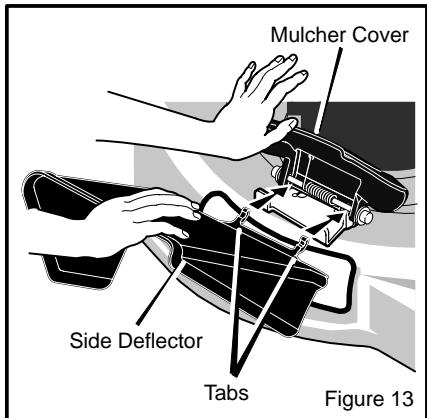

Figure 13
1. Raise the **mulcher cover** (Figure 13).